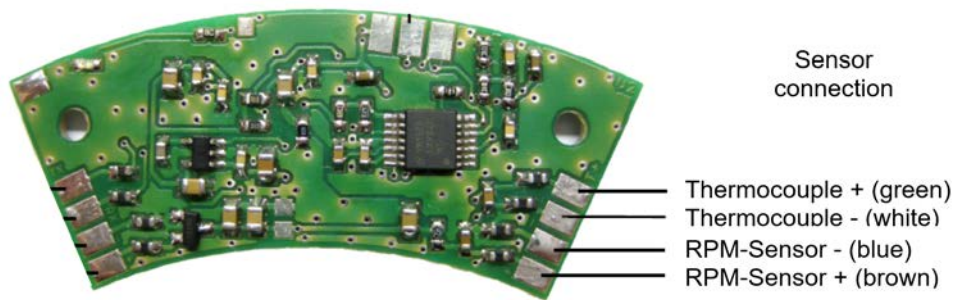

Figure 5-4: Sensor connection on sensor board
6. Connect EGT Sensor wire to the Sensorboard acc. to Figure 5-4, if disconnected before.